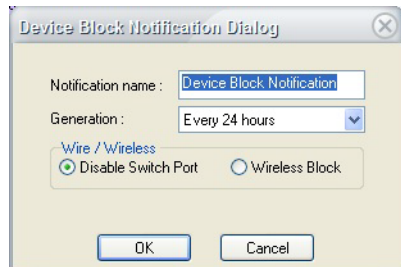

Figure 13-17: Configuring automatic rogue AP blocking
- 1) From the AirMagnet Policy Notification List, check the AP Block radio button. The Device Block Notification dialog box appears. See Figure 13-17.